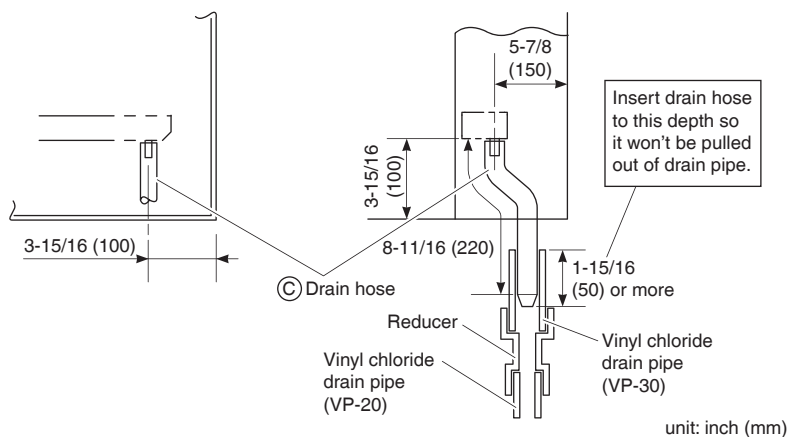

Fig. 1
- 1) Perform drain piping work as outlined in the figure. (See Fig. 1)